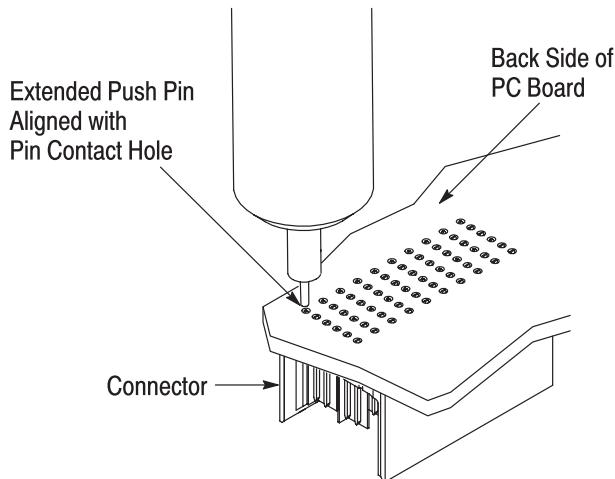

Figure 3
- With the push pin extended, locate the appropriate pc board hole (in the back side of the pc board) of the pin contact to be extracted, and place the push pin into the hole. Refer to Figure 3.